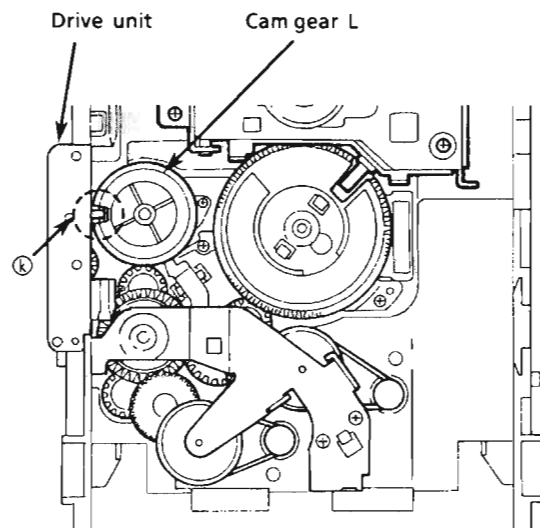

Fig. 41
2. Rotate the Cam gear L so that the drive unit's pole ④ is positioned as shown in Fig. 41.